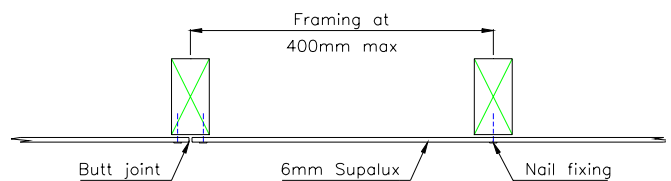

Fig 2 Section Detail - 30 minute system
6 mm thick Supalux supported by framing at min 600 mm centres. Refer figure 2.
1. At joints, sheets must be butt jointed as shown in Figs 2 and 3.